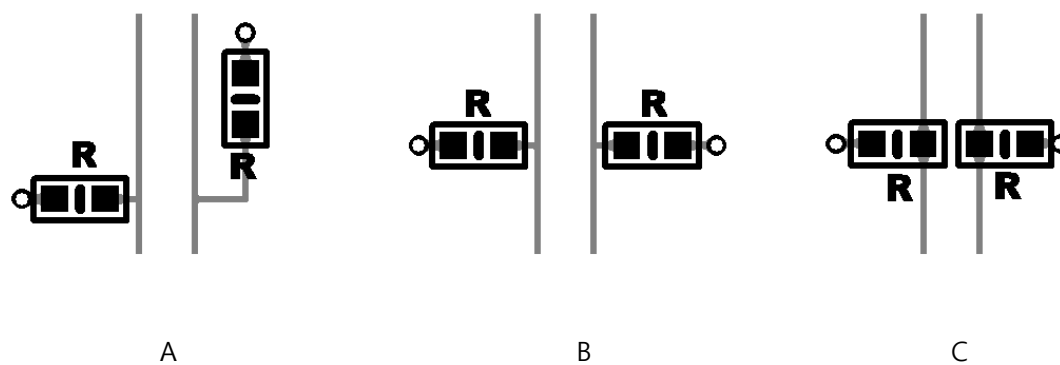

Figure 2-3: Example of Capacitor Placement and Routing
- Avoid stubs in A and B in Figure 2-3. Where termination or bias resistors are needed, one terminal should be located directly on the trace like C in Figure 2-3. Both resistors should be located at the same distance from the source and load.